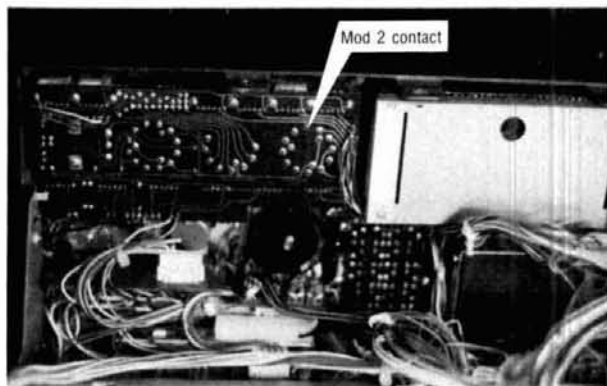
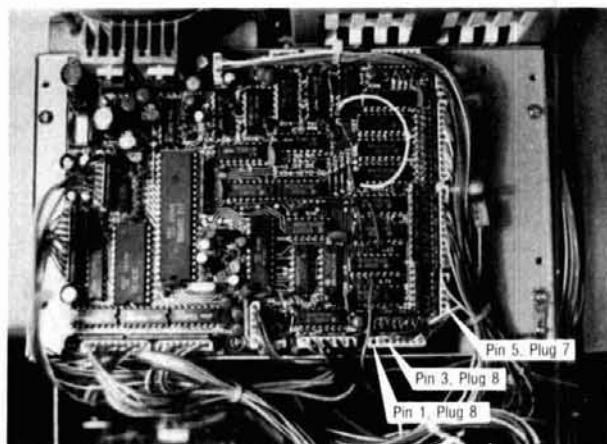

fig 2. Contact for mod 2 is at 12 o'clock position.
fig. 3. Connections for mods 1, 2, and 3 on digital unit board.
per from pin 5, plug 7 on the digital-unit board to ground through a switch. The function switch (VFO A, VFO B, etc.) has an empty contact to ground when it is placed in the VFO B position. **Figure 2** shows the location of the switch contact on the back of the switch's circuit board. Check continuity to ground through this contact to verify that you have the right one. Remember to place the switch in the VFO B position for this check. Solder one end of the jumper to this contact. The other end of the jumper needs to be bent into a small hairpin loop and fitted into the empty hole for pin 5, plug 7. (See **fig. 3** for the location of plug 7.) My 930 is seldom moved, so I don't worry about the jumper possibly pulling out of the hole. You'll need to experiment a bit with the size and shape of the hairpin to achieve a snug fit.
**Mod 2 (10-Hz readout)** requires installation of a jumper from pin 1, plug 8 on the digital-unit board to ground. (See **fig. 3** for the location of plug 8.) I used the hairpin trick again to connect the plug end of the jumper. A solder lug is connected to the other end, which can then be connected to any convenient screw in the chassis. I used one of the speaker/VOX assembly holddown screws. Test the mod by powering up the rig.